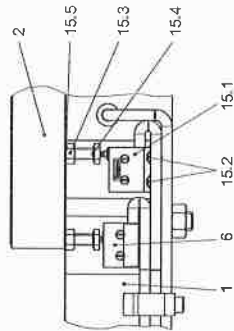

Fig. 10
Manufacturer-side Adjustment and Functional Inspection of the Microswitch (15.1), see Fig. 10
Only one microswitch for wear monitoring (15) is required per ROBA®-twinstop®, which is mounted onto the brake as shown in Fig. 10.